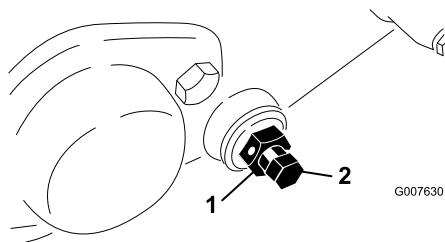

Figure 54
3. On each side of the machine, loosen the jam nut securing the bedbar bolt (Figure 54).
4. Remove each bedbar bolt allowing the bedbar to be pulled downward and removed from the machine. Save the 2 nylon and 2 stamped steel washers on each end of bedbar (Figure 54).